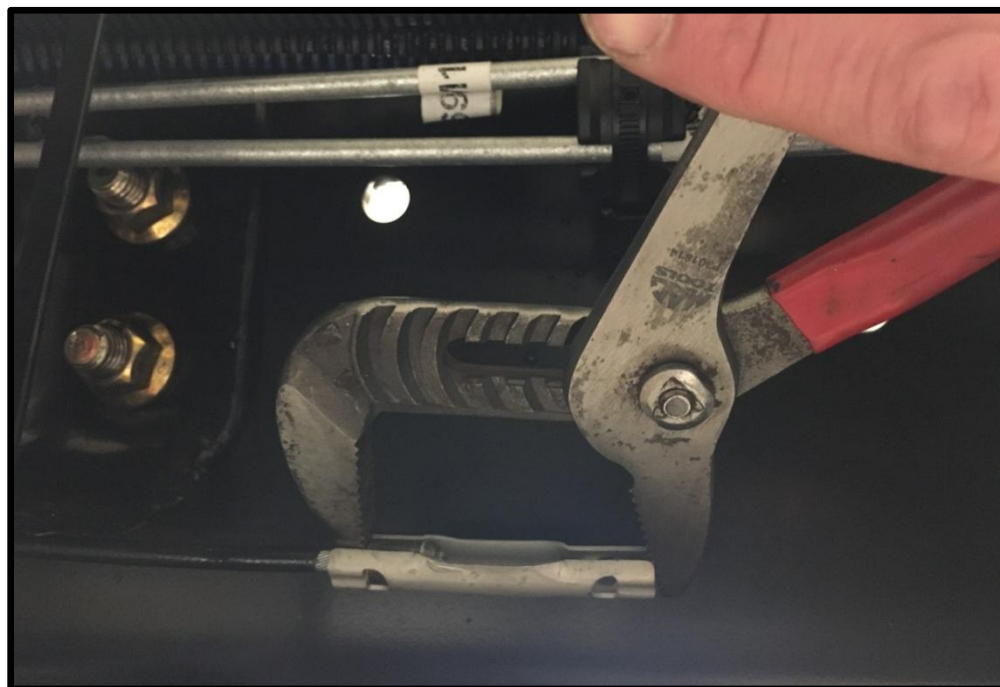

FIG. 3-2
5. Use channel lock pliers to release cable from connector clip. Refer to FIG. 3-2.